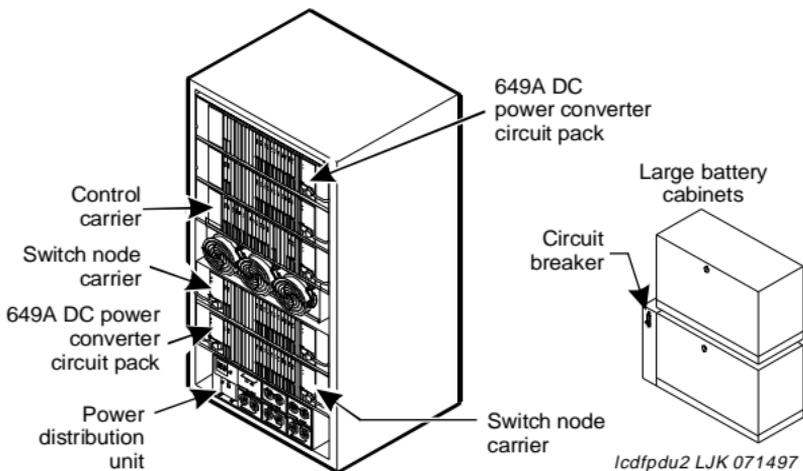

Figure 30. DC Power Distribution in Multicarrier Cabinets
Figure 30 shows the DC-power distribution in some multicarrier cabinets with extended battery backup (large batteries). In Release 6r systems, the power distribution cables are on the right side of the cabinet only. This is because the 649A DC power converter circuit pack replaces 2 power converters at either end of each carrier. Switch node (SN) carriers require two 649As and two cables.